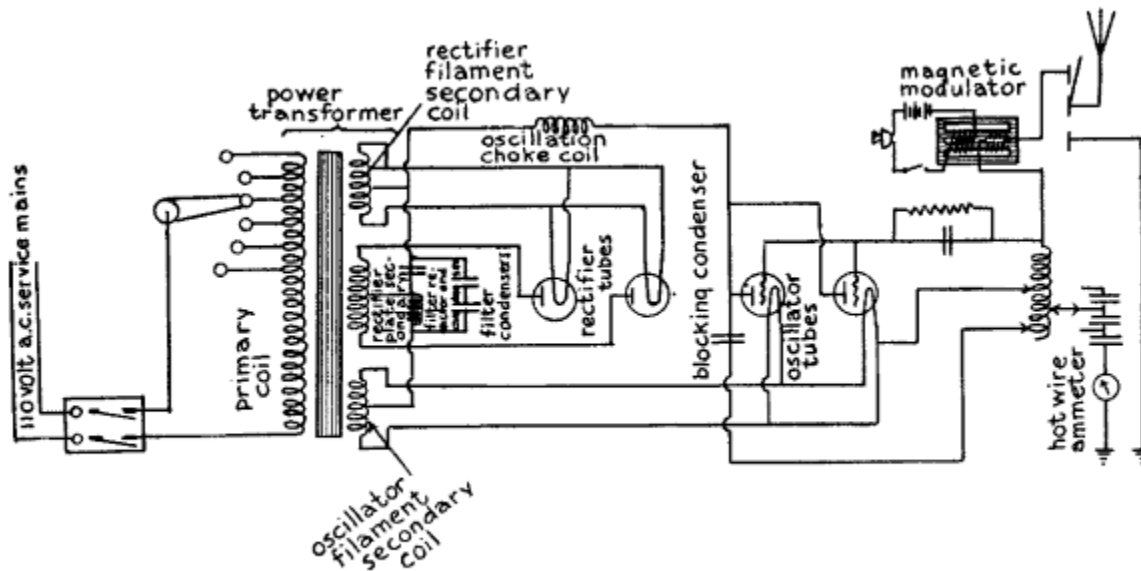

FIG. 93.—100 to 200 Mile Wireless Telephone Transmitter.
Connecting Up the Apparatus.—The wiring diagram in Fig. 93 shows how the various pieces of apparatus for this telephone transmitter are connected up. You will observe: (1) that the terminals of the power transformer secondary coil which develops 10 volts are connected to the filaments of the oscillator tubes; (2) that the terminals of the other secondary coil which develops 10 volts are connected with the filaments of the rectifier tubes; (3) that the terminals of the third secondary coil which develops 550 volts are connected with the plates of the rectifier tubes; (4) that the pair of filter condensers are connected in parallel and these are connected to the mid-taps of the two filament secondary coils; (5) that the reactance coil and the third filter condenser are connected together in series and these are shunted across the filter condensers, which are in parallel; and, finally, (6) a lead connects the mid-tap of
*A 100 to 200 Mile Wireless Telephone Transmitting Set--With 110 Volt Alternating Current.--*This telephone transmitter is built up of exactly the same pieces of apparatus and connected up in precisely the same way as the one just described and shown in *Fig. 93*.
*Apparatus Required.--*The only differences between this and the preceding transmitter are: (1) the *magnetic modulator*, if you use one, should have an output of 3-1/2 to 5 amperes; (2) you will need two 50 watt *oscillator tubes with sockets*; (3) two 150 watt *rectifier tubes with sockets*; (4) an *aerial ammeter* that reads to 5 amperes; (5) three 1 mfd. *filter condensers in parallel*; (6) two *filter condensers of 1 mfd. capacitance* that will stand 1750 volts; and (6) a 300 milliamperes *filter reactor*.
The apparatus is wired up as shown in *Fig. 93*.
The Operation of Microphone Modulators--The Induction Coil.-- This device is really a miniature transformer, see *A* in *Fig. 86*, and its purpose is to change the 6 volt direct current that flows through the microphone into 100 volts alternating current; in turn, this is impressed on the oscillations that are surging in either (1) the grid circuit as shown at *A* in *Fig. 89*, and in *Fig. 90*, (2) the aerial wire system, as shown at *B* in *Fig. 89* and *Fig. 93*. When the current from the battery flows through the primary coil it magnetizes the soft iron core and as the microphone varies the strength of the current the high voltage alternating currents set up in the secondary coil of the induction coil are likewise varied, when they are impressed upon and modulate the oscillating currents.
The Magnetic Modulator.--This piece of apparatus is also called a *magnetic amplifier*. The iron core is formed of very thin plates, or *laminations* as they are called, and this permits high-frequency oscillations to surge in a coil wound on it. In this transformer, see *A* in *Fig. 88*, the current flowing through the microphone varies the magnetic permeability of the soft iron core by the magnetic saturation of the latter. Since the microphone current is absolutely distinct from the oscillating currents surging through the coil of the transformer a very small direct current flowing through a coil on the latter will vary or modulate very large oscillating currents surging through the former. It is shown connected in the aerial wire system at *A* in *Fig. 88*, and in *Fig. 93*.
The Operation of Wireless Telephone Transmitters with Alternating Current.--Where an initial alternating current is used for wireless telephony, the current must be rectified first and then smoothed out before passing into the oscillator tube to be converted into oscillations. Further so that the oscillations will be sustained, two oscillator tubes must be used, and, finally, in order that the oscillations may not vary in amplitude the alternating current must be first changed into direct current by a pair of rectifier vacuum tubes, as shown in *Fig. 93*. When this is done the plates will be positively charged alternately with every reversal of the current in which case there will be no break in the continuity of the oscillations set up and therefore in the waves that are sent out.